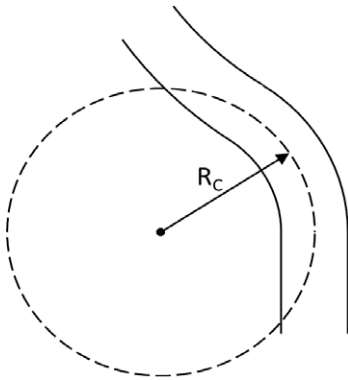

Figure 11.1. Channel plan view showing radius of curvature
1. Calculate the radius of curvature (R_c) of the most severe bend in the channel (see Figure 11.1).